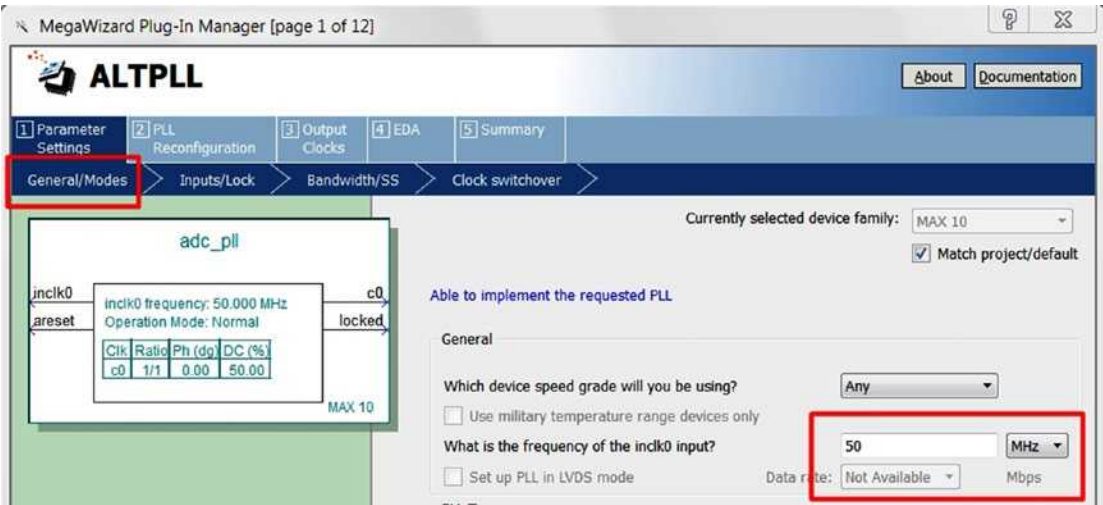
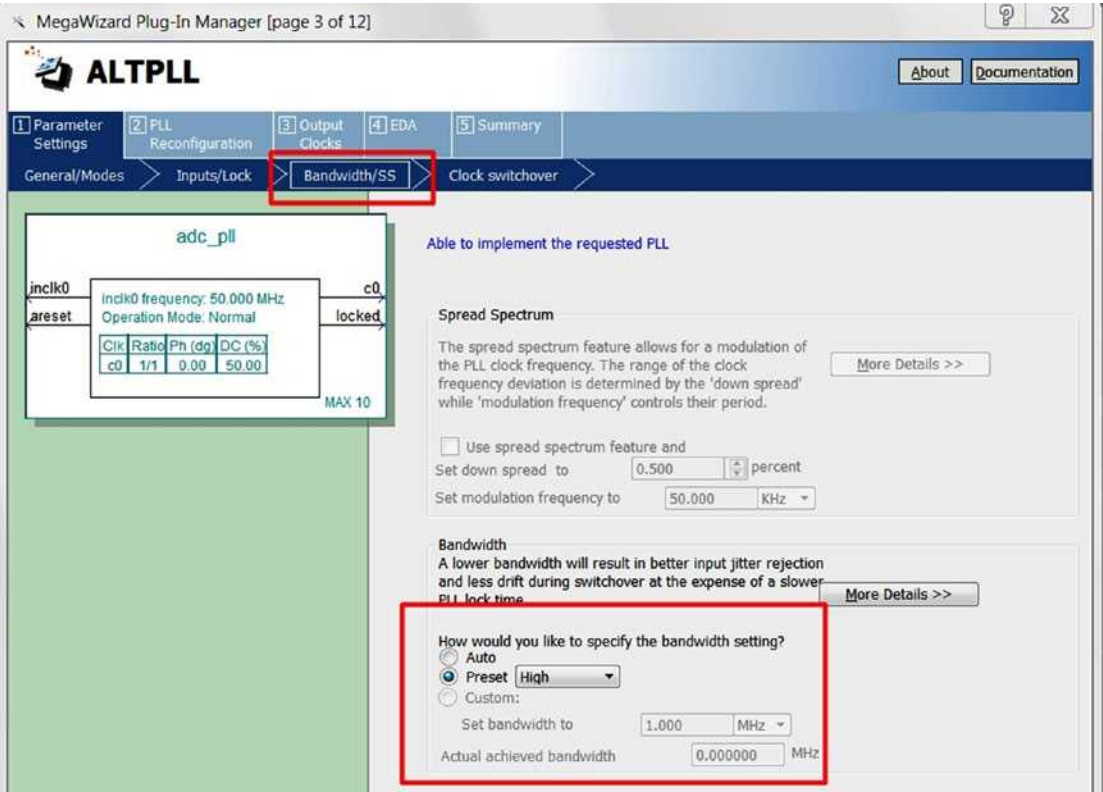

Figure 12-18. MegaWizard Plug-In Manager for ADC IP—1
Figure 12-19. MegaWizard Plug-In Manager for ADC IP—2
Step 3: A MegaWizard Plug-In Manager window will appear as in Figure 12-18. Under the **1: Parameter Settings** tab, on the **General/Modes** tab, change the inclk0 input to **50 MHz** which is the on board clock frequency. On the **Bandwidth/SS** tab in Figure 12-19, change the Bandwidth Setting to **Preset High**.